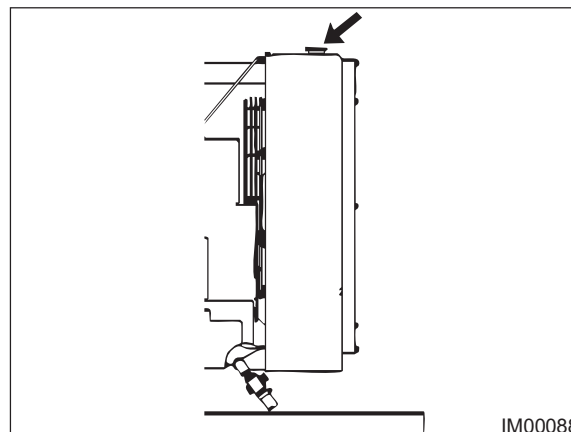

Fig: 11.24 - Filler Cap
4. Remove the Cooling System Filler Cap slowly in order to relieve pressure (Fig: 11.24).